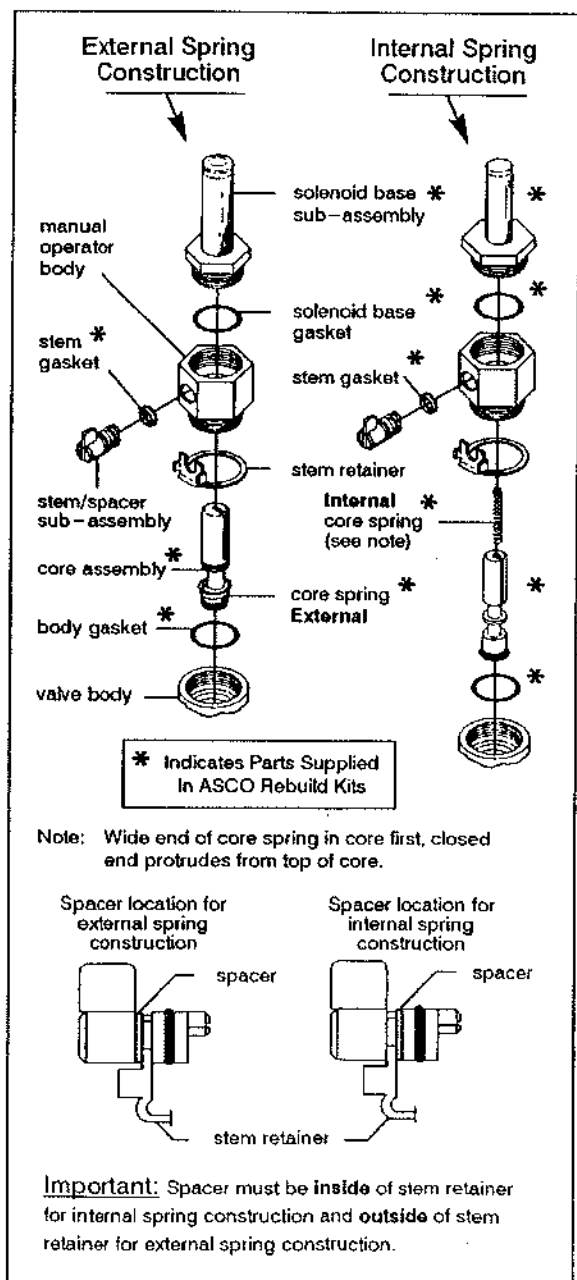

Figure 3. Stem/lever type manual operators
4. For normally open construction (Figure 3) remove end cap, or manual operator, (not shown) end cap gasket, disc holder spring, and disc holder assembly.
3. For normally open construction (Figure 3), install disc holder assembly, disc holder spring, end cap gasket and end cap or manual operator. For valves with 1/8" NPT, torque end cap or manual operator to  $90 \pm 10$  in-lbs [ $10.2 \pm 1.1$  Nm]. For all other valves torque end cap or manual operator to  $175 \pm 25$  in-lbs [ $19.8 \pm 2.8$  Nm].
### Disassembly and Reassembly of Stem /Lever Type Manual Operator (Refer to Figure 3)